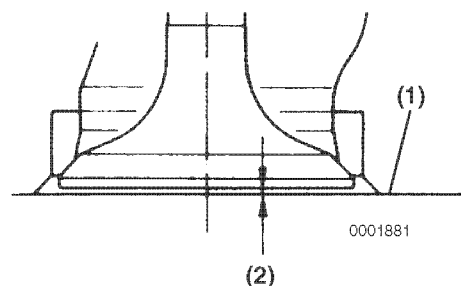

Figure. 6-8
Insert the valves into their original locations until they are fully seated. Use a depth micrometer to measure the distance (**Figure 6-8, (2)**) between the cylinder head surface (**Figure 6-8, (1)**) and the combustion surface of each exhaust and intake valve. See *Cylinder Head* on page 6-5 for the service limit. Record the measurement.